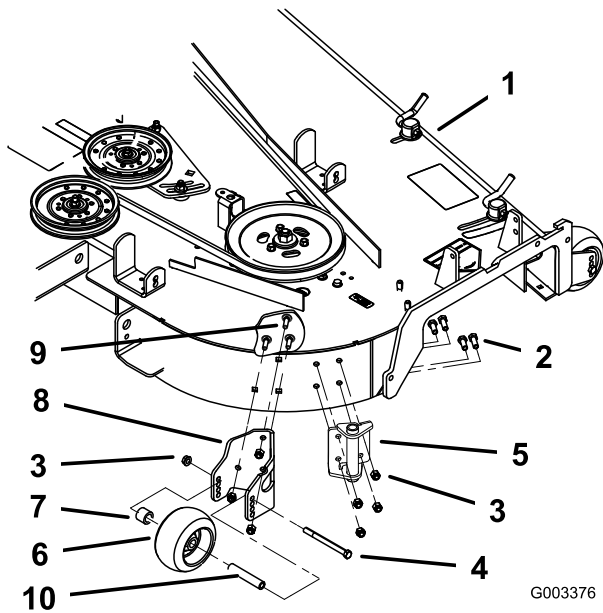

Figure 16
5. Install the new blower pivot using 4 bolts (3/8 x 1 inch) and 4 locknuts (3/8 inch) using the drilled holes (Figure 16).
6. Install the anti-scalp roller bracket using the previously removed carriage bolts and nuts to the mower deck (Figure 16).
7. Install the anti-scalp roller to the bracket using the previously removed axle bolt (3/8 x 4-1/2 inches), bushings, and flange nut (3/8 inch) as shown in Figure 16.